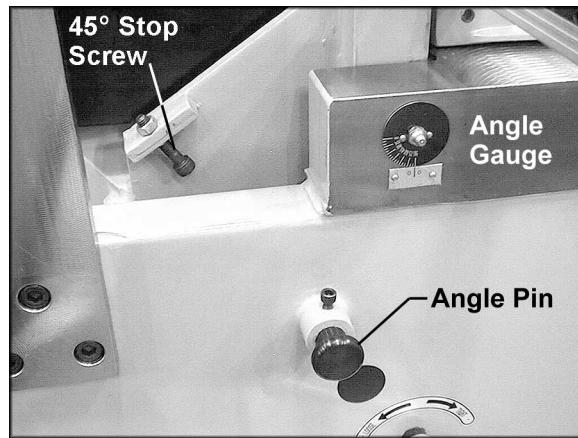

Figure 23
1. The angle pin (Figure 23) should be pushed in completely. (You may have to slightly loosen the socket head cap screw on the angle pin to allow the angle pin to move.)
2. Loosen the hex nut on the 45-degree stop screw (Figure 23).
3. Turn the stop screw until the 45-degree angle is obtained. Check this setting by pivoting the head down until the stop screw contacts the angle pin. The angle can be read on the angle gauge (Figure 23).